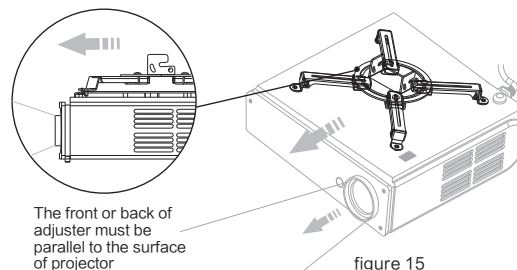

figure 15
5.The front or back of adjuster must be parallel to the surface of projector as figure 15.